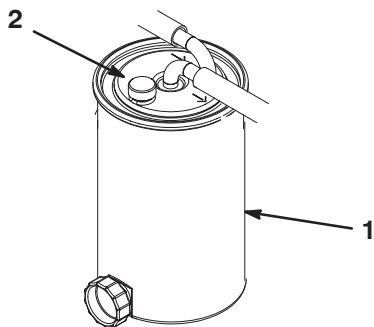

Figure 27
2. Open the breather valve, on top of the canister, until fuel leaks out (Fig. 27).